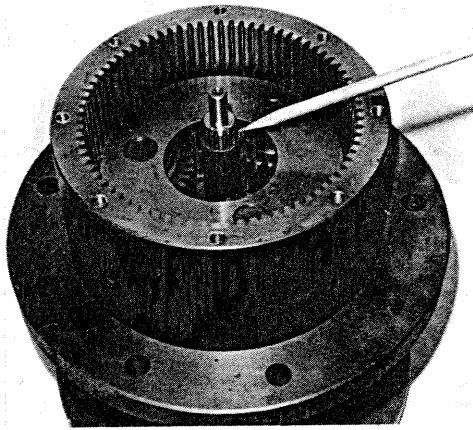

Figure 9 Assemble snap ring
**STEP 8** Remove the small snap ring from input shaft, (Figure 9).
**STEP 10** Apply a bead of RTV compound to hub face that mates with ring gear. Assemble the end of ring gear having six bolt holes against hub with bolt holes aligned, (Figure 9). Assemble the six 3/8-24 x 1-7/8 inch hex head bolts and tighten to specified torque.
**STEP 11** Assemble the snap ring in groove of input shaft, (Figure 9).